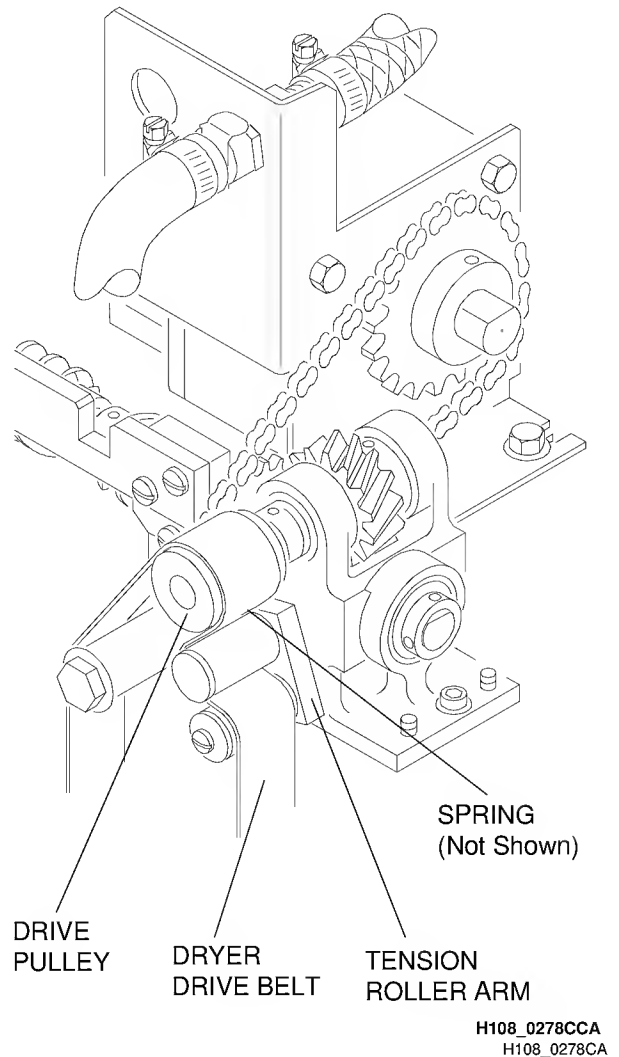

Figure 4-8 Removing the Dryer Drive Pulley
- [2] To release the tension on the BELT, remove the SPRING from the TENSION ROLLER ARM. See Figure 4-8 on page 4-9.